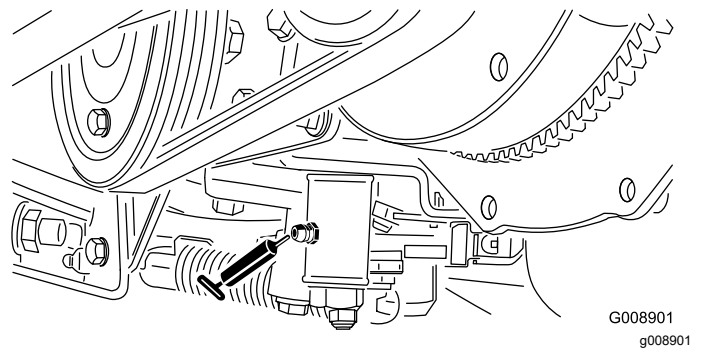

Figure 40
- Neutral-adjustment mechanism (Figure 40)